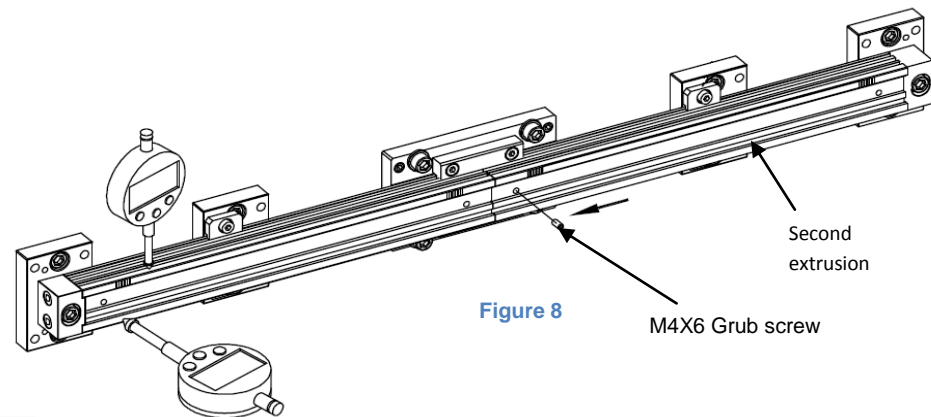

Figure 8
- Attach the next section of extrusion by sliding it into dowel pin and secure. Using grub screws secure another end of dowel pin as shown in Figure 8.